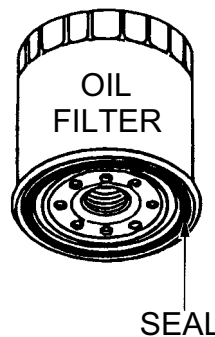

Figure 58. Oil Filter
- Apply a film of oil to the gasket/rubber seal (Figure 58) on the new oil filter.